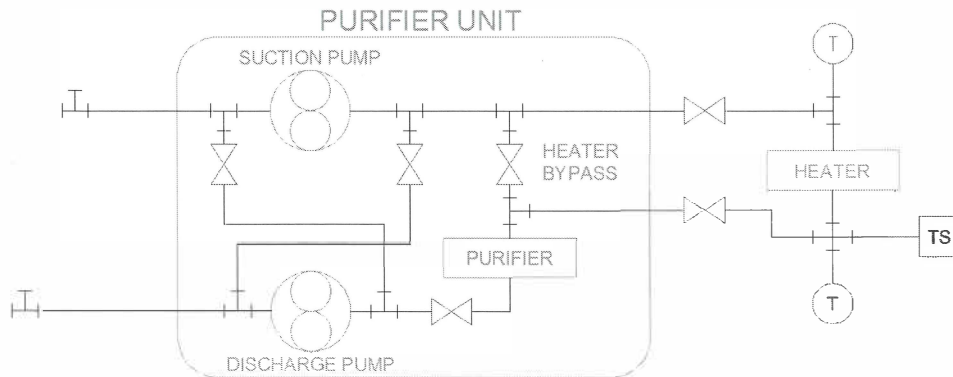

Figure 3-4
5. Use grips to stretch the endpoint of the lines on the left side to connect with the T fittings, as shown in Figure 3-4.